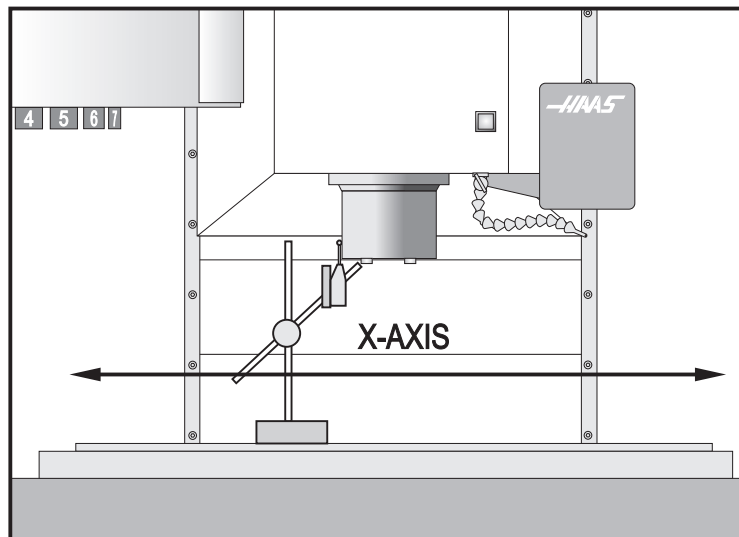

Figure 3-1. Dial indicator in position to check X-axis.
1. Set up a dial indicator and base on the mill table as shown in Fig. 3-1.
An alternate method for checking backlash is to place the dial indicator as shown in Fig. 3-1 and manually push on the mill table in both directions. The dial indicator should return to zero after releasing the table.